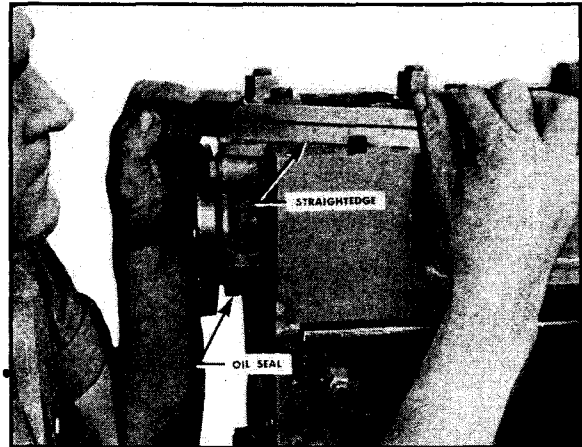

Fig. 12-15. Checking rear cover plate alignment
9. Check the alignment of the milled surface of the bottom of the lower plate-half with the bottom surface of the block. Fig. 12-15.